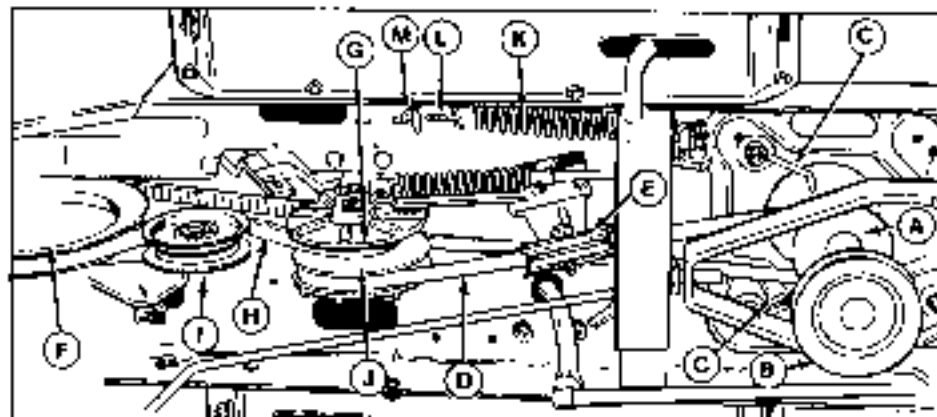

Figure 20. Belt Replacement
3. Pull downward on the rear idler pulley (I, Figure 20) and slip the rear belt (H) off.
5. Slip the front belt (D) off the variator pulley (G).
6. Loosen up the idler pulley (E) mounting hardware enough so the belt can be slipped from the pulley and belt stop and slip the belt off.
7. Slip the belt off the engine pulley (A) loosening the belt stops (C) as necessary. Pull the belt down off the PTO pulley (B), and remove from the tractor.
9. Slip the rear belt (H) off the variator pulley (G). Remove the belt from the transmission pulley (F) by pulling over seat or toward transmission pulley and